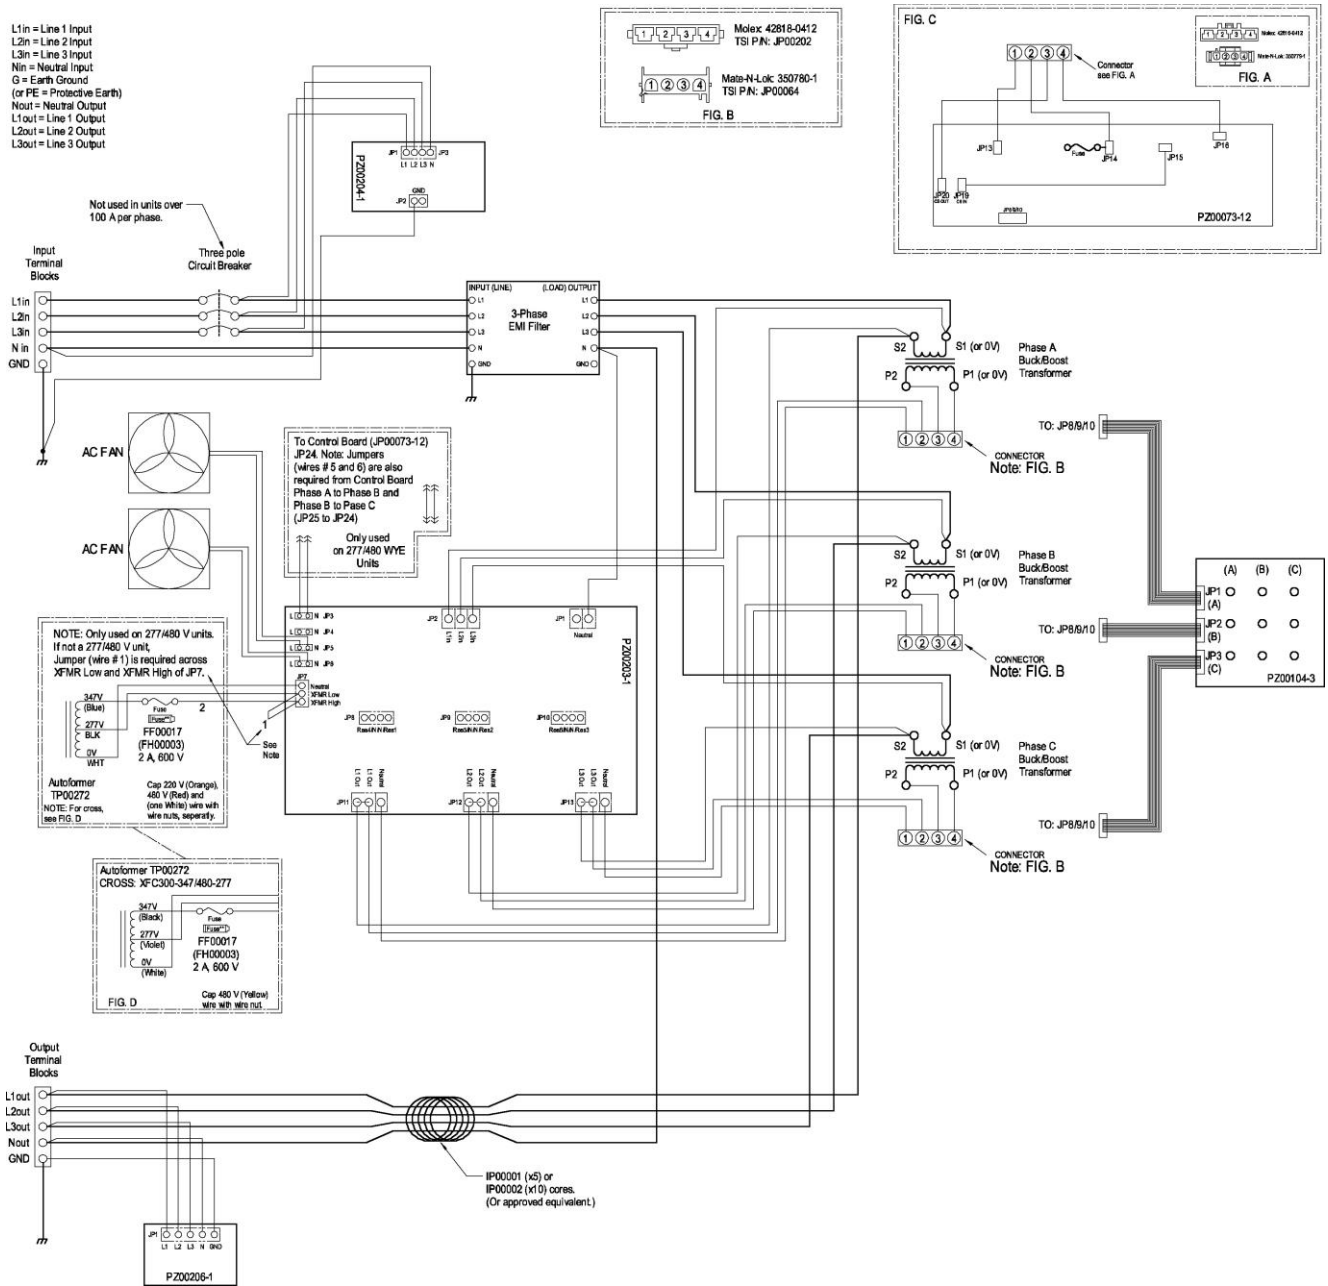

Figure 8: Three Phase Large Series (24in. Cube) VRP Wiring Diagram
2.1 THREE PHASE VRP WIRING DIAGRAMS -See Figures 8 and 9